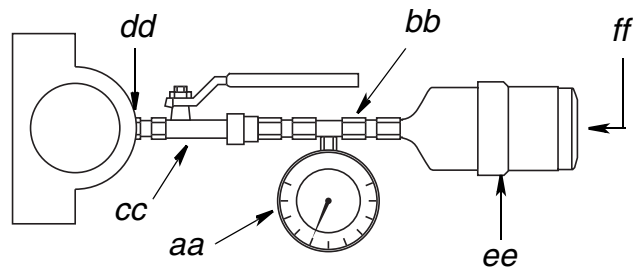

FIG. 3
A pressure manometer is a simple device that measures pressure output. To build a pressure manometer you need a pressure gage (aa), tee fitting (bb) and stop valve (cc). FIG. 3 shows a correctly assembled pressure manometer, connected to the lubricator and a lubrication point.
2. Remove the plug (A).
3. Install lubricator unit into adapter (B).
5. Screw a pressure manometer into the lubrication point (*dd*) (FIG. 3, page 8).
7. Attach lubricator and adapter (B) to the pressure manometer as shown in FIG. 3 and turn the switch to “ON” (*ff*).
11. Disconnect adapter (B) from manometer.